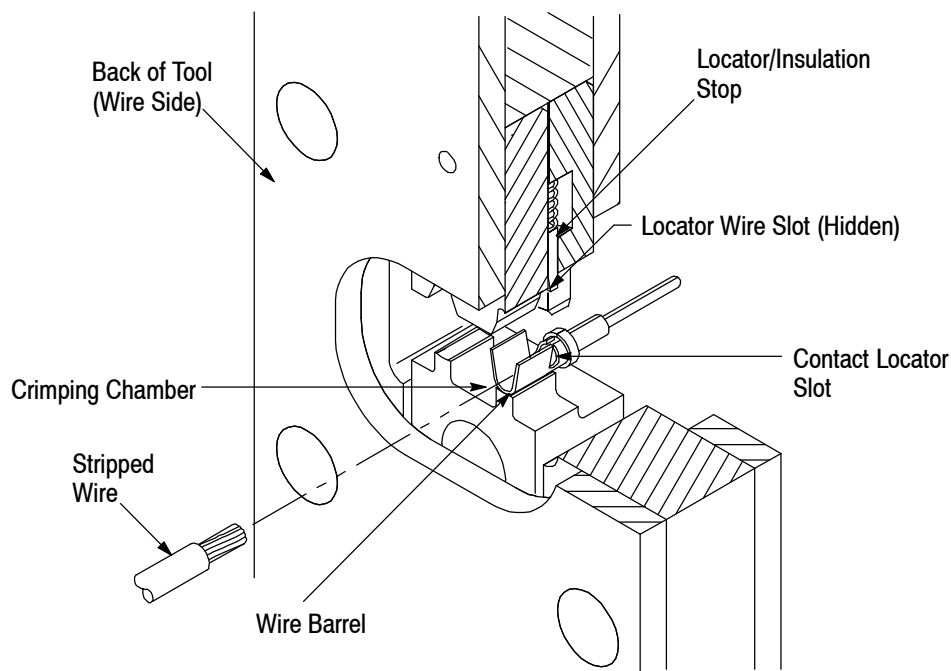

Figure 3
3. Looking straight into the dies from the BACK of the tool, and insert a contact into the FRONT of the appropriate crimping chamber. See Figure 3.